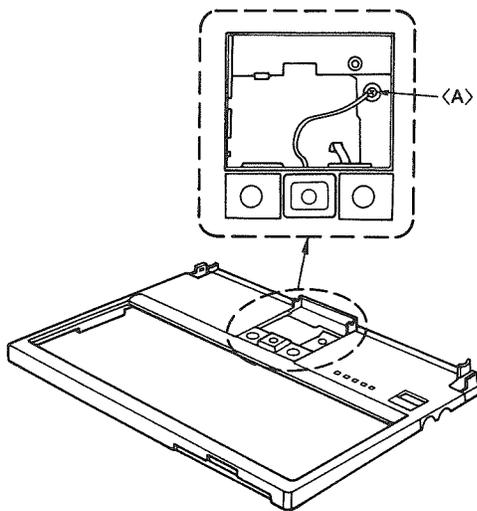

Figure 45
- (1) After the disassembly step (10) of “4.1 Top Case” is done, remove screw <A> as shown in Figure 45.